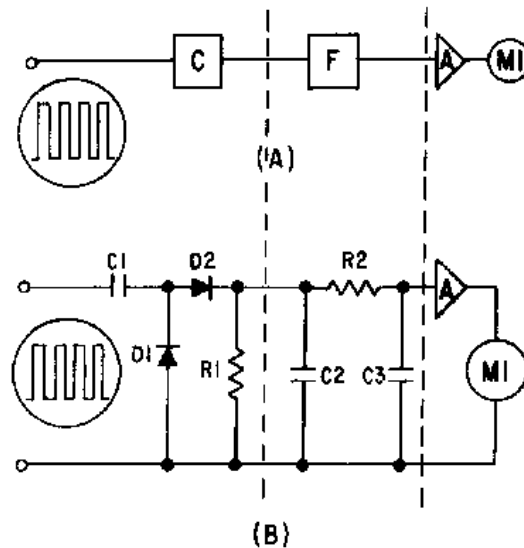

Figure 4-44.—Basic frequency counter.
be employed to use this frequency-to-voltage relationship to operate an indicator. The block diagram in view (A) of figure 4-44 represents one simple circuit which may be used to perform this function. In this circuit, the basic counter is fed into a low-pass filter and an amplifier with a meter that is calibrated in units of frequency.
Reversing the connections of diodes D1 and D2 in the positive-counter circuit (view (A) of figure 4-43) will cause the circuit to respond to negative pulses and become a negative-counter circuit. Diode D2 conducts during the time the negative pulse is applied and current flows in the opposite direction through R1, as was indicated by the arrow. At the end of the negative pulse, D1 conducts and discharges C1. The current through R1 increases with an increase in pulse frequency as before. However, if the voltage developed across R1 is applied to the same control circuit, as shown in view (A) of figure 4-44, the increase in current will be in a negative direction and the amplifier will conduct less. Thus, the effect is opposite to that of the positive counter.